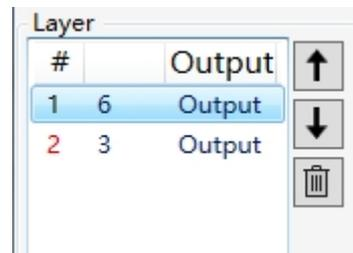

Fig. 4.11.1a Selecting Layer 1
- ① Select the layer to be sorted, and select layer 1 as shown in Fig. 4.11.1a.